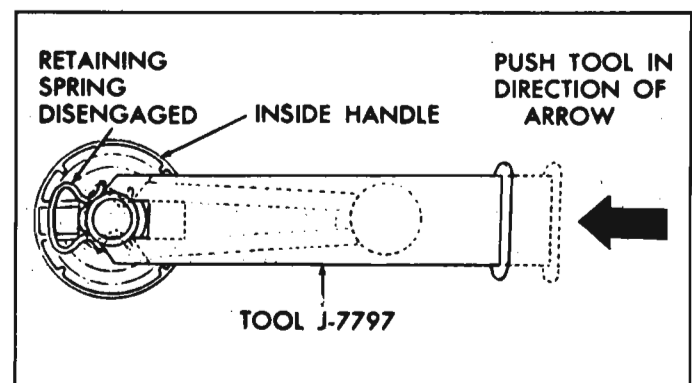

Fig. 10-38—Removing Inside Handle Retaining Spring
2. Push handle retaining spring out of engagement as shown in Figure 10-38 and remove handle and bearing plate from door.